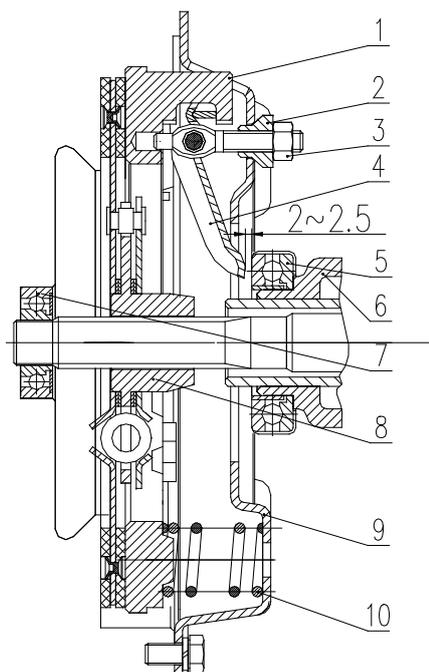

Fig.5-1 Single-action clutch
Firstly loosen the lock nut 3 on the release lever (see fig.5-1). Then rotate the adjusting screw 2 to make sure the distance between working face of three release levers 4 and clutch pressure plate 1 shall be (45 ± 0.125) mm, finally lock with nut 3. Adjust the clutch front fork 4 (see figure 5-2) to ensure the free travel of clutch pedal is (4-5.5) mm, ensure the clearance A between working face of release lever 4 and end face of release bearing 5 is (2-2.5)mm (see the right figure); after that, lock the nut 5.
- (1) To avoid the oil droplet is contaminated on the friction lining, frequently screw out the drain plug beneath the flywheel housing to drain the dirty oil leaked into the engine and transfer case. If leaking is serious, please timely troubleshoot. If necessary, use gasoline (or kerosene) to clean the friction lining.
- (2) To prevent and avoid the wear of friction lining, the clutch should be frequently maintained and adjusted. Do not release and engage the clutch at will. When releasing the clutch, fast depress the clutch to floor. Never work with clutch semi-engaged to avoid damage of clutch.
- (3) Never work with clutch poorly adjusted. This could accelerate the wear of clutch friction lining and even burnout.
- (4) When installing clutch, fill up the bearing 7(see fig.5-1) and chamber in release bearing block 6 with lithium base grease. When dismantling the clutch, please check whether the release bearing 5 is lack of lubricant. If so, put the bearing into heated molybdenum disulfide base grease to let the grease penetrate into bearing. When the grease cooling down, take it out and carry out installment. Do not clean the release bearing by putting it into gasoline or diesel to avoid the grease in the bearing is washed away. Otherwise, refill the grease.